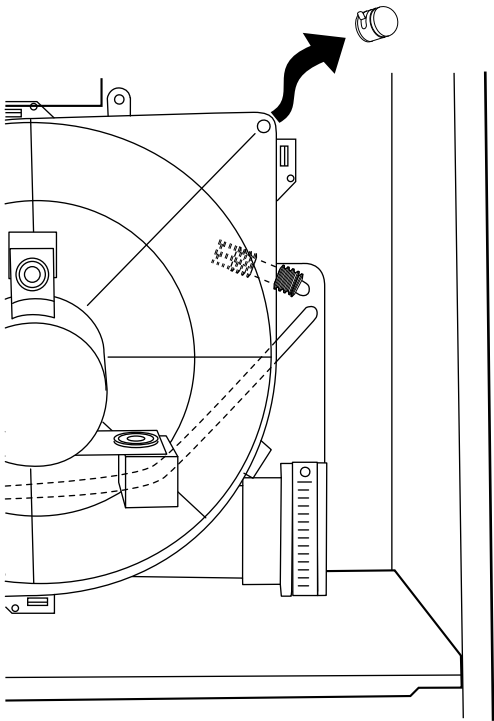

Fig. 13—Inducer Housing Drain Tube
3. Disconnect drain tube from inducer housing. (See Fig. 13.)